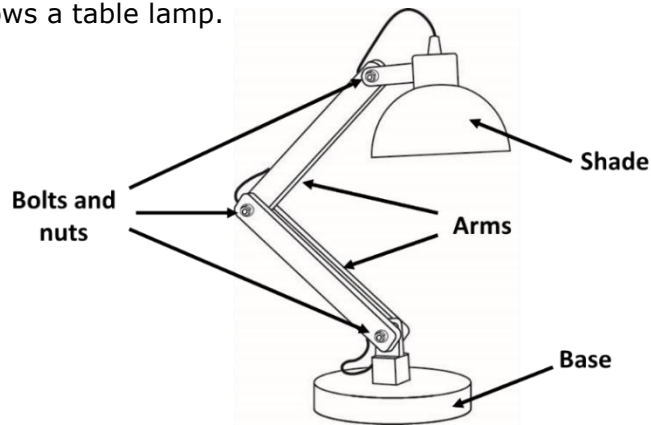

Figure 5
14. Figure 5 shows a table lamp.